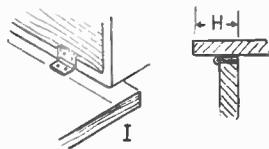

Fig. 4
Hinges for boxes can, in many cases, be fitted as detailed above, but an exception must be made when the lid overhangs the box, as is the case with certain designs of fancy fretwood boxes for example. In such instances, the hinges are completely recessed in the top edge of the box first. Then, take measurement (H) in Fig. 4, that from the edge of the hinges to the knuckle and overlap of the lid. A pencil line to this measurement is drawn along the inside of the lid, as shown at (I), then the box laid on its side with the free leaves of the hinges opened out and touching the pencil guide line. In this position they are screwed or nailed to the lid. (497)